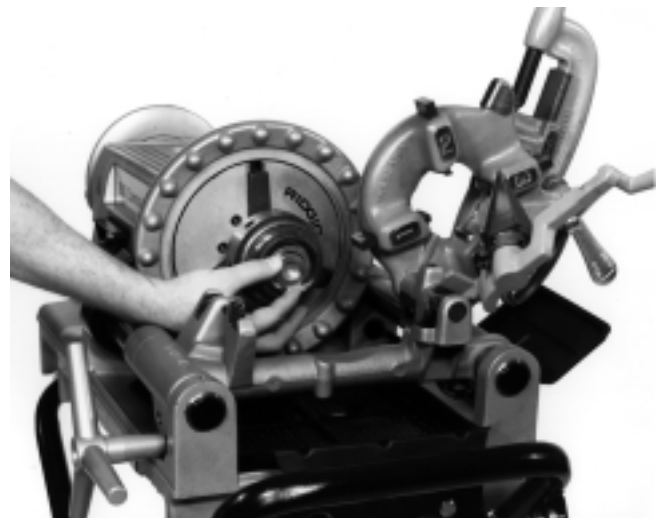

Figure 16 – Place Insert into Nipple Chuck
3. Position insert (Figure 16) with small end toward